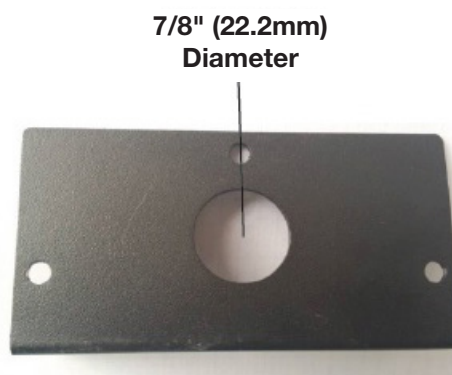

FIG. 2
- C. Locate the new cover plate, supplied in the hardware bag (FIG. 2). Punch out the 7/8" (22.2mm) hole and install a box connector through, into the junction box. Snap the box connector clamp onto the supply wires.